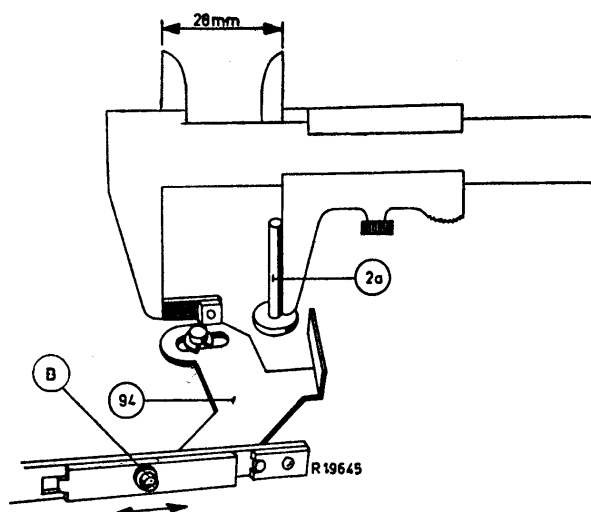

FIG. 13
- (b) Right-hand. To adjust the right-hand brake, remove the R.H. turntable 194 and, after slackening the locking screw "B," set the brake bracket so that right edge of the brake block is 26 mm. from the right-hand edge of the turntable spindle (see Fig. 13).